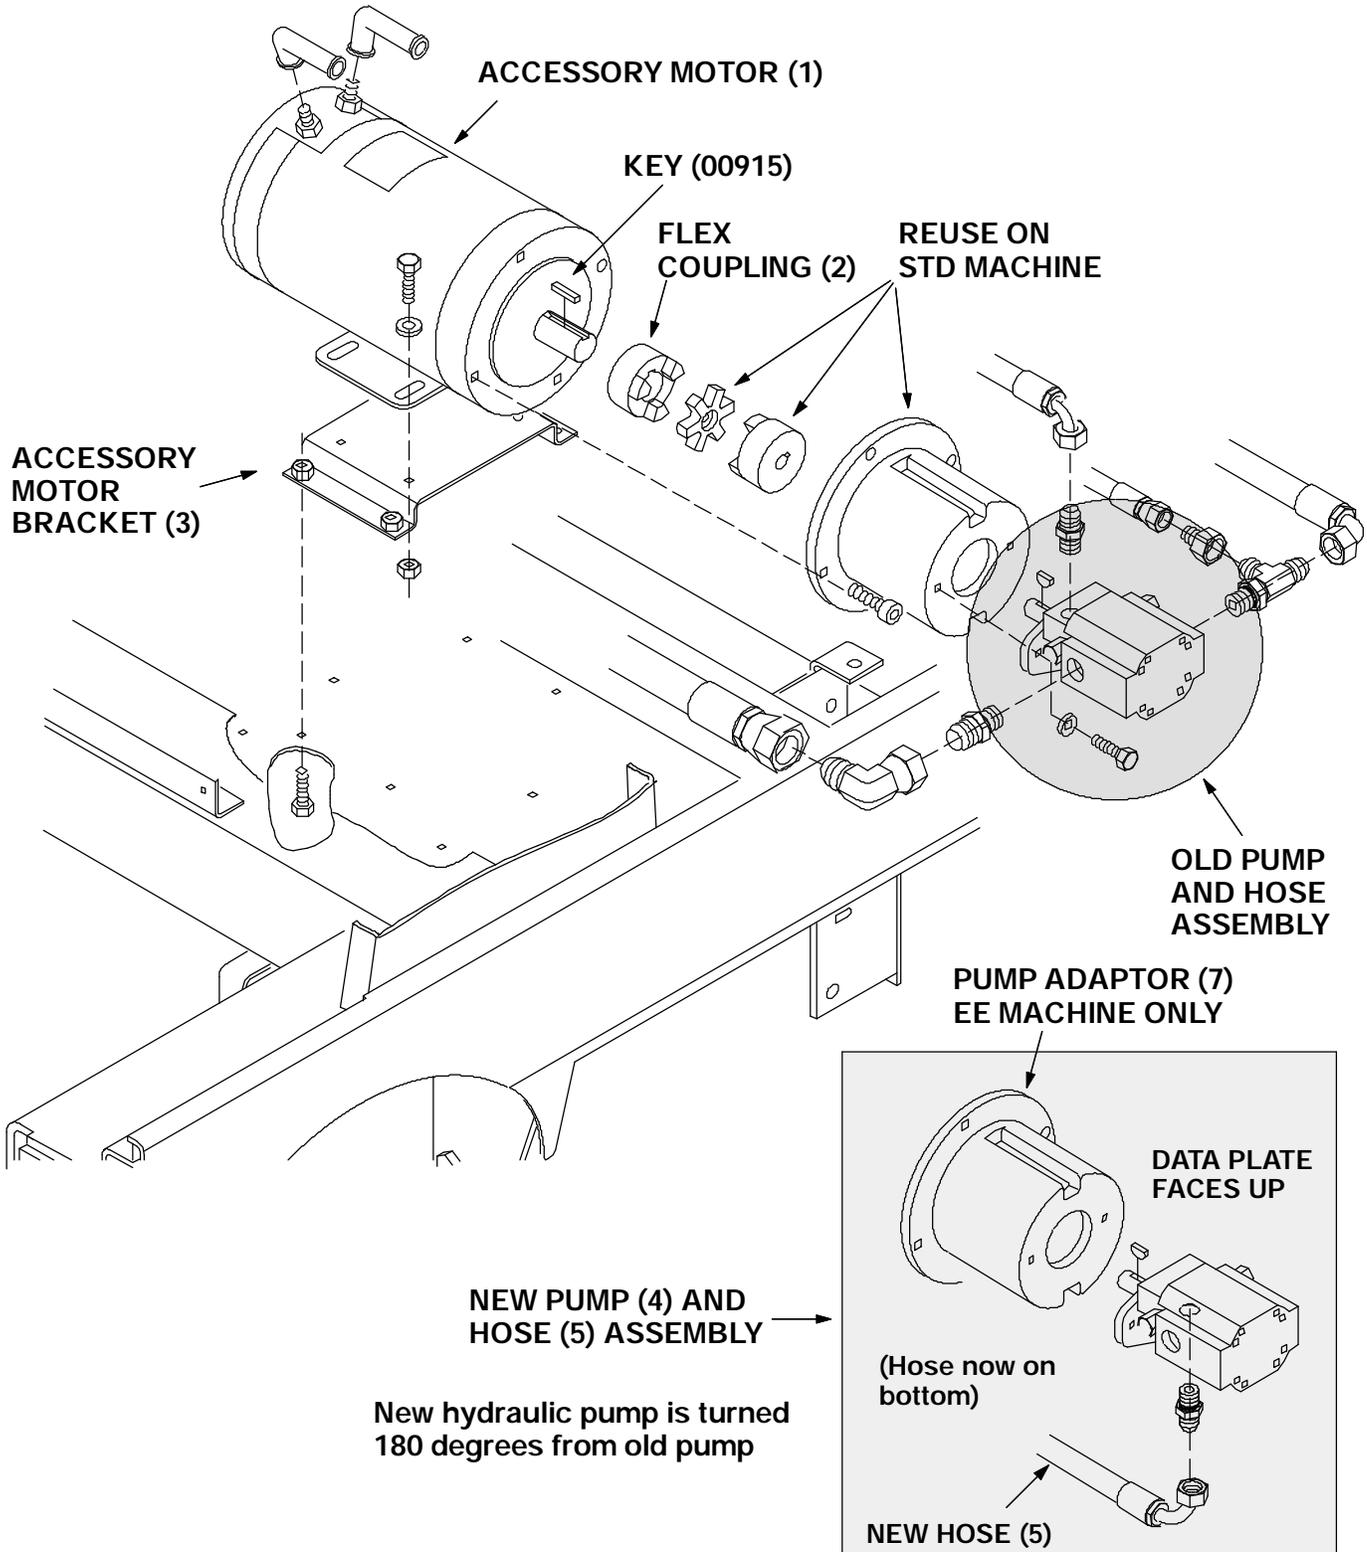

FIG. 1 - ACCESSORY MOTOR, COUPLING, PUMP ADAPTOR, AND PUMP ASSEMBLY
(Refer to FIG. 1 and 2)
5. Mark and disconnect the electrical cables leading to the accessory motor. (Refer to FIG. 1)
6. Mark, disconnect, and plug the hydraulic hoses leading to the main hydraulic pump. (Refer to FIG. 1)
7. Remove the four screws holding the accessory motor and pump assembly to the machine frame. Remove the accessory motor/pump and mount bracket from the machine. (Refer to FIG. 1)
8. **If your machine is an EE version-** remove the hydraulic fittings and 2 pump mount screws. Discard the accessory motor, hydraulic pump, pump adaptor, and pump mount bracket. (Refer to FIG. 1 and 2)
9. If your machine is a standard version--remove the four screws holding the pump and pump adaptor to the accessory motor. Pull the pump adaptor and pump off the accessory motor. (Refer to FIG. 1)
10. If your machine is a standard version--Loosen the set screws holding the flex coupling to the hydraulic pump shaft. Remove the flex coupling and flex spacer from the old pump. Remove the hydraulic fittings and discard the accessory motor, hydraulic pump, and accessory motor bracket. Retain the pump adaptor for re-use. (Refer to FIG. 1)
1. Install the hydraulic fittings in the new pump (4) in the same orientation as they were removed. (Refer to FIG. 1)
NOTE: The new pump (4) is at a 180° rotation from the orientation of the old hydraulic pump. The fitting and hose that were on top of the old pump are now on the bottom of the new pump (4). (Refer to FIG. 1)
2. **If your machine is a standard version-** - install the new pump (4) on the old pump adaptor. Place a small amount of adhesive (6) on the threads of the two pump mount screws. Install the screws and tighten to 18 - 24 Nm (15 - 20 ft lb). (Refer to FIG. 1)
4. **If your machine is a standard version-** - install the existing flex coupling and flex spacer on the shaft of the new pump (4). Position the coupling so it extends slightly past the end of the pump shaft. Hand tighten the set screws firmly. (Refer to FIG. 1)
NOTE: Place a small amount of grease on the pump and motor shafts before re-assembly. (Refer to FIG. 1 and 2)
7. Install the new flex coupling (2) on the new electric motor (1). Position the coupling so it extends slightly past the end of the pump shaft. Hand tighten the set screws firmly. (Refer to FIG. 1 and 2)
8. Install the pump, adaptor, and coupling assembly on the new electric motor. Reinstall the four screws and tighten to 31 - 40 Nm (27 - 35 ft lb). Place a small amount of adhesive (6) on the threads of the four pump adaptor mount screws. (Refer to FIG. 1)
9. Install the new accessory motor bracket (3) on the new motor and pump assembly. Slide the motor and pump assembly back in the slots as far as it will go before tightening the four screws and nuts. Tighten to 11 - 14 Nm (7 - 10 ft lb). (Refer to FIG. 1)
10. Install the motor/pump assembly and mount bracket in the machine. Reinstall the four screws and tighten to 18 - 24 Nm (15 - 20 ft lb). (Refer to FIG. 1)
11. Reconnect the hydraulic hoses to the new pump. **Note: the hose that went to the fitting on top of the old pump needs to be removed and replaced with a new hydraulic hose (5) that is 2" longer. This hose is now connected to the fitting on the bottom of the new pump.** (Refer to FIG. 1)
12. Reconnect the electrical cables to the new accessory motor. (Refer to FIG. 1)